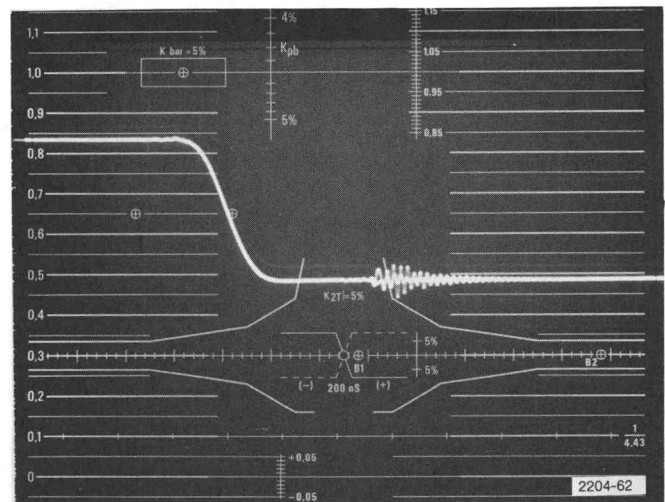

Fig. 6-15. Sync Pulse transition.
- d. CHECK—for the transient response close to that shown in Fig. 6-15.